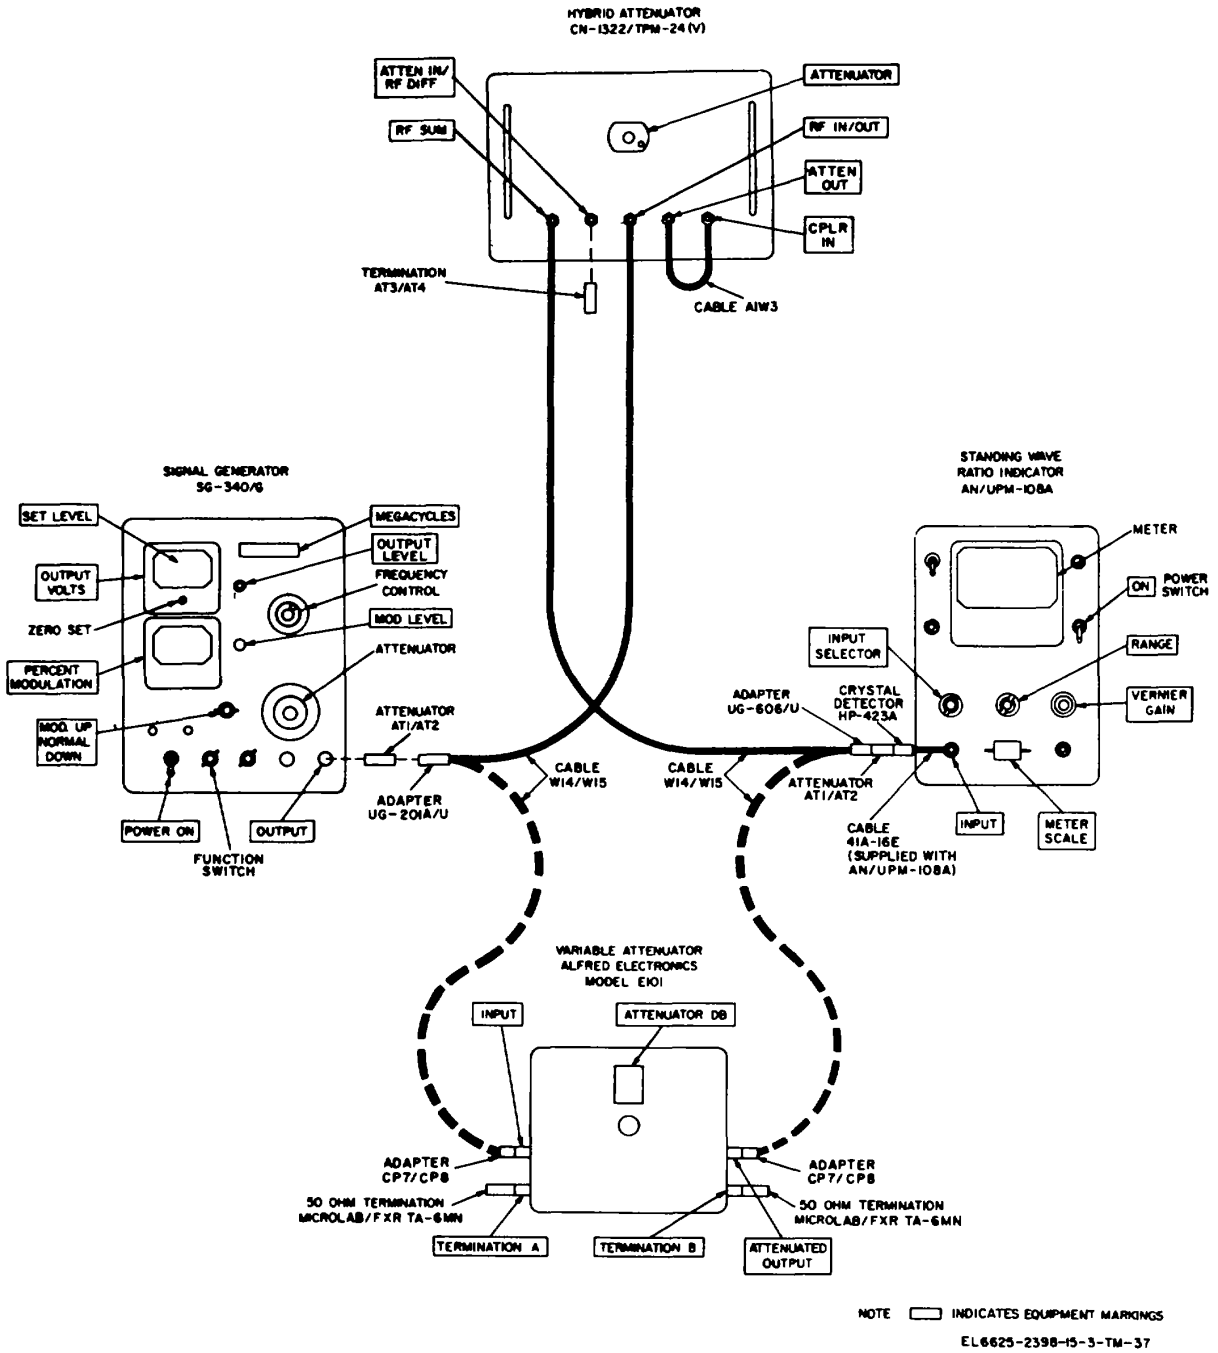

Figure 8-3. Hybrid attenuator insertion loss measurement between RF IN/OUT and RF SUM connectors, test connections.
- (2) Variable Attenuator, Alfred Electronics Model E101.
- (3) Standing Wave Ratio Indicator AN/UPM-108A.
- (4) Crystal Detector HP-428A.
- (5) Adapter UG-201A/U.
- (6) Adapters CP7/CP8(2).
- (7) Fixed Attenuator AT1/AT2(2).
- (8) Termination ATS/AT4(1).
- (9) 50-ohm Terminations (2), Microlab/FXR TA-6MN.
- (10) Cables W14/W15(2).
- (11) Adapter UG-606/U.
*b. Test Connections and Conditions.* Initially connect the equipment as shown in solid lines, figure 8-3. Disconnect the hybrid attenuator and connect the variable attenuator (connections shown in broken lines) as directed in the procedure below.